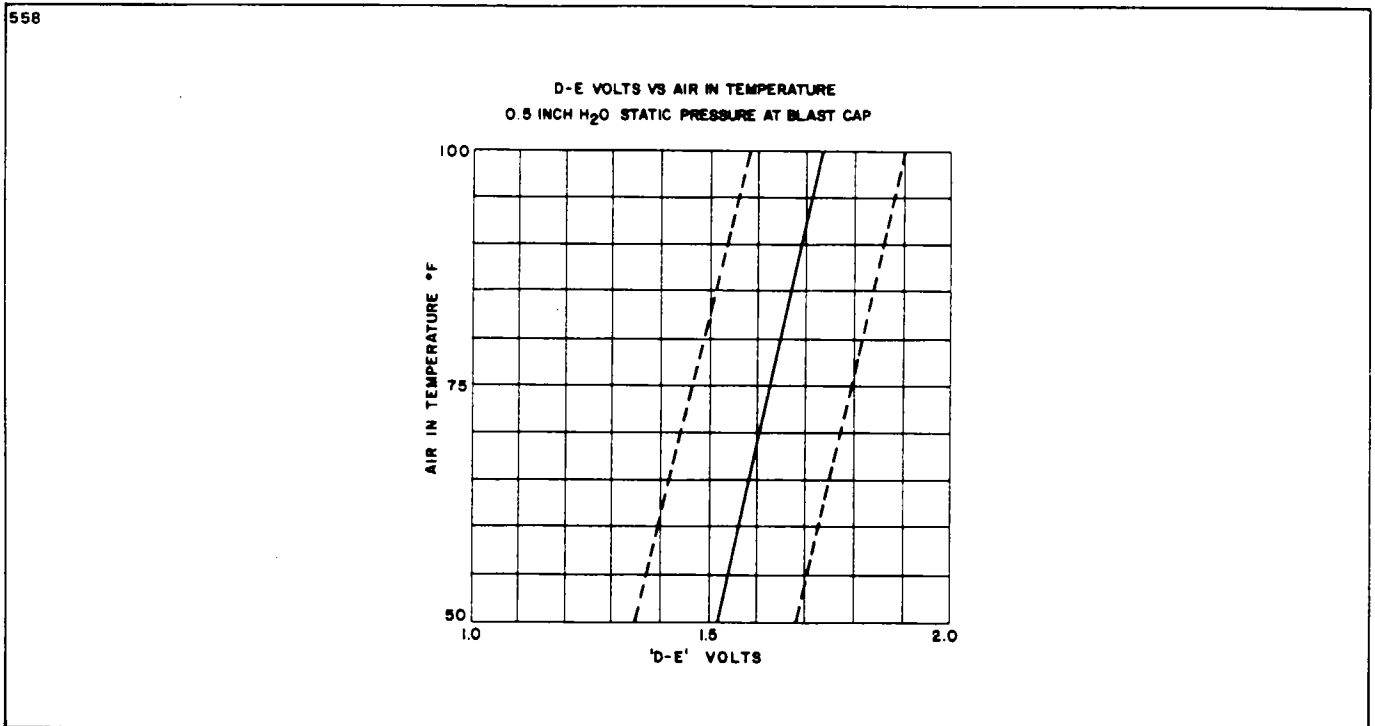

Figure 24-10. Paralleling Voltage Chart.
B. With the voltage regulator connected to the unit, operate at 12,000 RPM 30-volts, 200 amps until the frame temperature shows no more than 2° F rise in five minutes. Record the voltage between D and E, air blast inlet temperature, commutation, field current and frame temperature. Commutation should not be worse than pinpoints along the edges of the brushes. The paralleling voltage must be within the limits shown on Figure 24-10. Frame temperature must not exceed air temperature by more than 175° F.